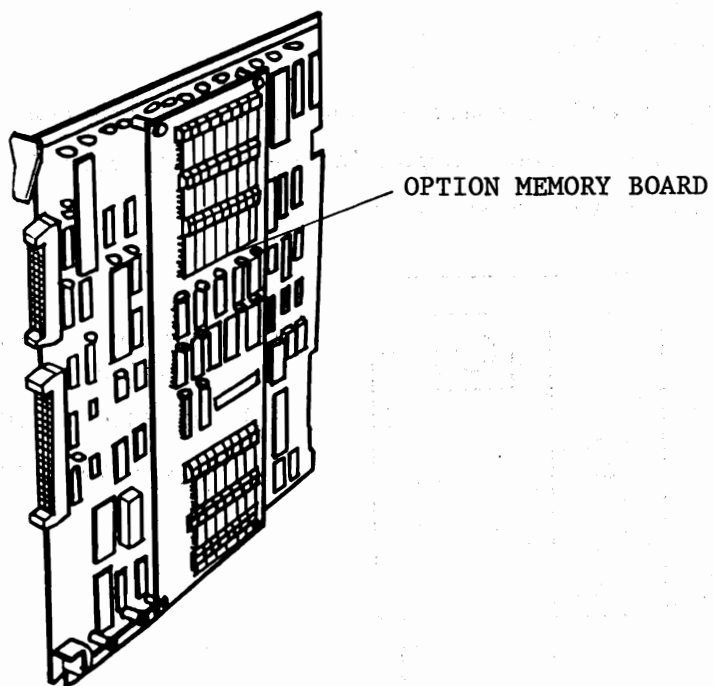

Fig. 4.3.13
- ① Remove rear and upper covers. See paragraph 3.1 of Chapter 3.
- ② Remove CPU+I/O-CONT P.C.B from MAIN UNIT by referring to 5.2.2 in Chapter 5.
- ③ As in Fig. 4.3.13, attach memory board to CPU+I/O-CONT P.C.B. with care in connecting connector. Attach it with 4 screws on soldered side of CPU+I/O-CONT P.C.B.